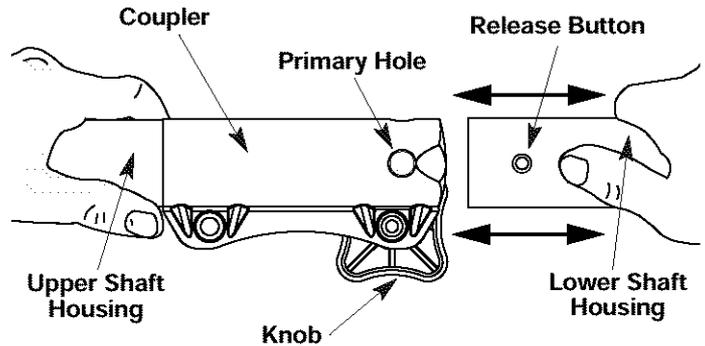

Fig. 6
3. While firmly holding the upper shaft housing, pull the snow thrower attachment out of the coupler (Fig. 6).
3. While firmly holding the add-on, push it straight into the coupler (Fig. 6).
**CAUTION:** Lock the release button in the primary hole (Fig. 6) and securely tighten the knob before operating this unit.